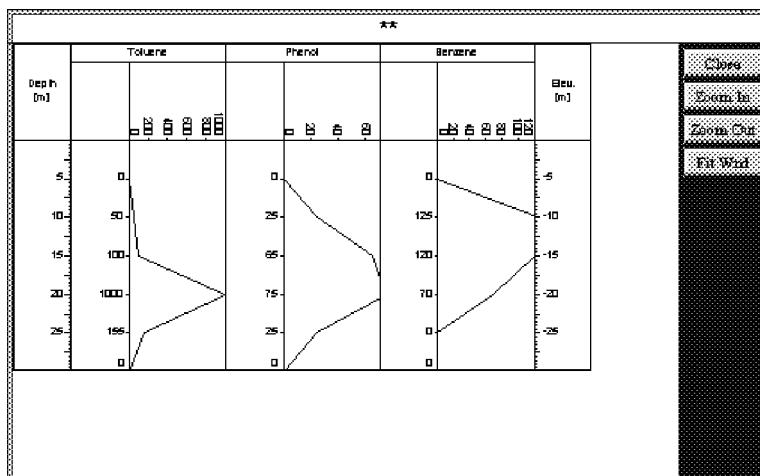

Figure 19-20
15. Now you may see immediately the graph. Click on Display. The default parameters are used to display this graph. The display is as shown in Figure 19-20. Click on the button Close to remove this graph.